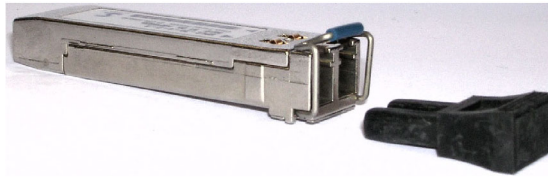

Figure 45: SFP module and optical port plug
If you purchased an SFP module for your GbE interface card (MTM4UP options LX, SX, or ZX), perform the following steps to install the SFP module. (See Figure 45.)
- a. Remove the optical port plug from the SFP module. (See Figure 45 on page 71.)